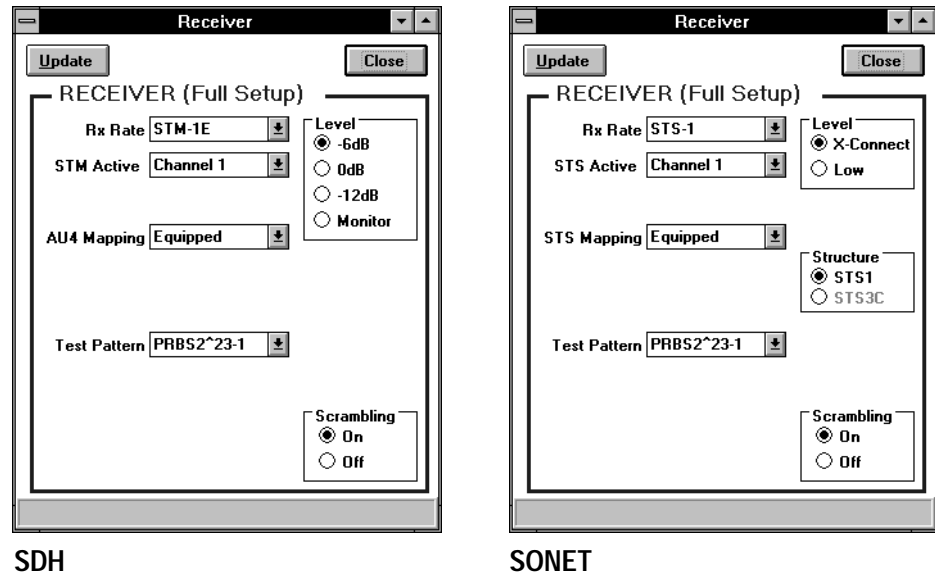

Figure 3–17: The Receiver window
The RECEIVER group provides the primary controls needed to detect the connected signal with the VX4610 receiver as shown in Figure 3–16. It also includes command buttons that open additional windows containing controls for the receiver. All changes to receiver settings take effect immediately. The **More** command button opens the Receiver window which gives you access to more receiver settings.
Click on the **More** command button in the RECEIVER group to display the Receiver window shown in Figure 3–17. The Receiver window contains the full set of receiver controls, including the drop-down lists found in the main window.
You can set some of the Receiver parameters from the main window or use the complete group of settings available in the **Receiver** window shown in Figure 3–17.
1. Click on the **More** command button in the RECEIVER group to display the Receiver window shown in Figure 3–17